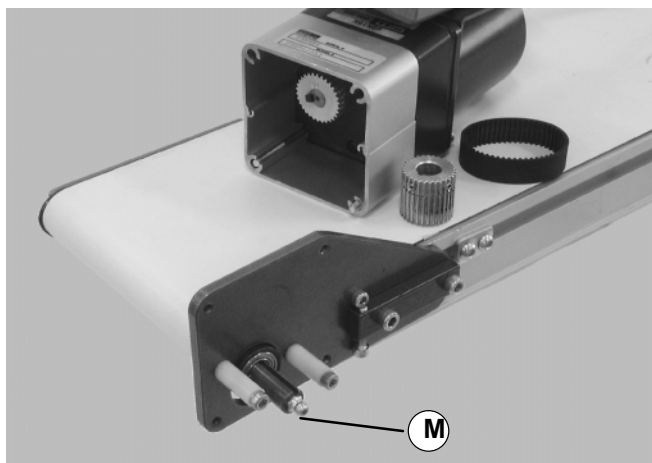

Figure 17
4. Lubricate the pulley bearing on drive side through drive shaft grease fitting (M of Figure 17).